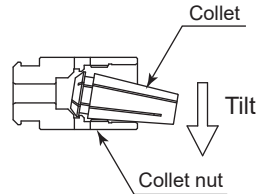
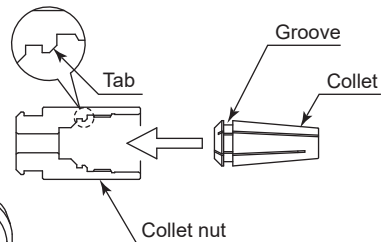

Fig. 5
Fig. 6
- (2) Hold the collet nut in one hand, and tilt the collet to one side to release it. If the collet is not released, try tilting it to the other side. (Fig. 5)
- (3) Hold the collet nut in one hand, and install the collet. (Fig. 6)
If the collet is difficult to install, tilt the collet to one side when inserting it, so that the tabs can more easily be seated in the groove. (Fig. 5, Fig. 6)